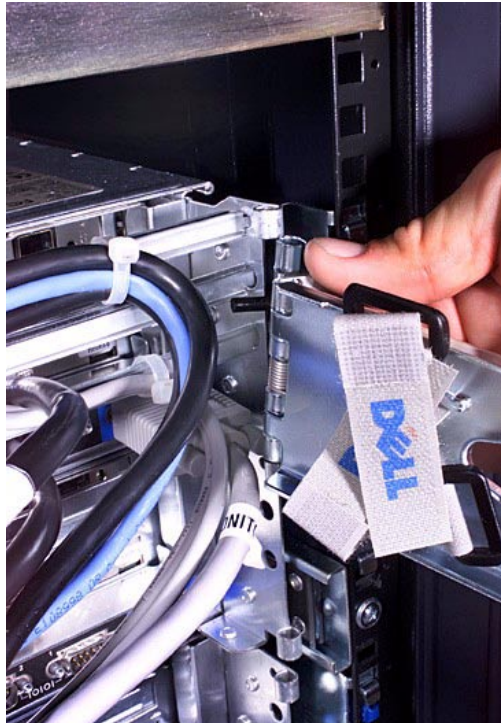

Figure 9. Attaching the Cable Management Arm
3. Attach the cable management arm to the system by placing the bottom pin of the cable management arm in the bottom receptacle on the bracket (see Figure 9).